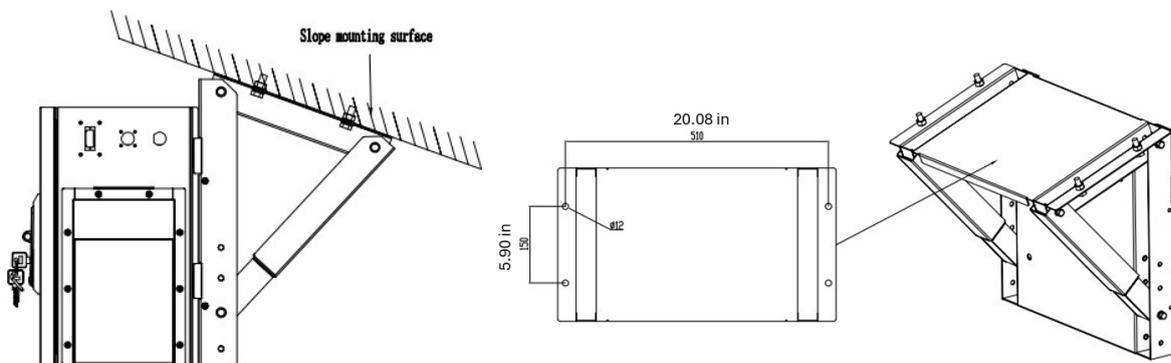

Figure 5.9 Dispenser Mounted on A Steel Frame or Gantry
- Drill holes into the wall based on the dimensions of the bracket shown in figure 5.9. Secure the bracket onto the wall with four M10*60 bolts and torque them down to the specified value.